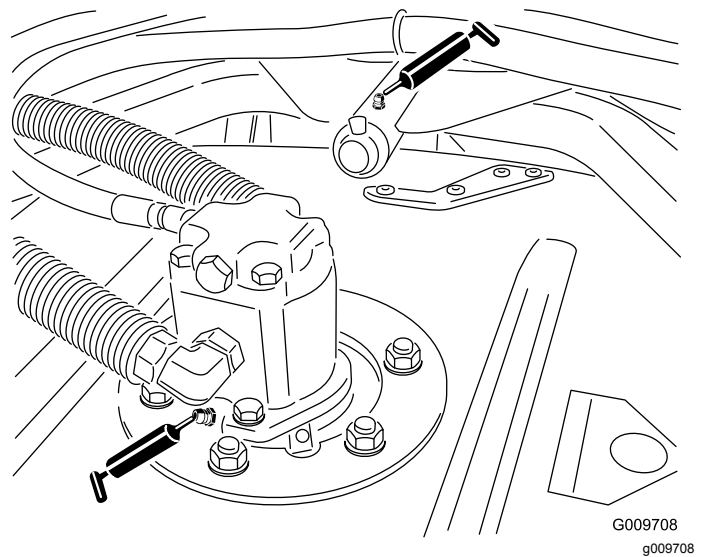

Figure 23
- Cutting unit spindle shaft bearings (1 per cutting unit) (Figure 23)
- Cutting unit carrier arm bushings (1 per cutting unit) (Figure 23)